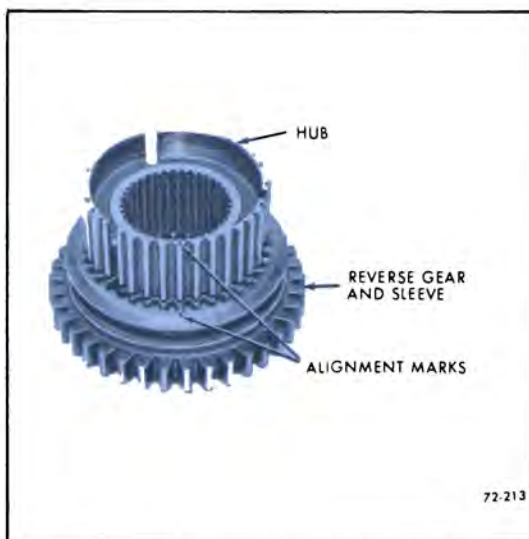

Figure 72-213—Starting Hub into Gear
2. Start hub in sleeve making sure alignment marks are indexed. See Figure 72-213.